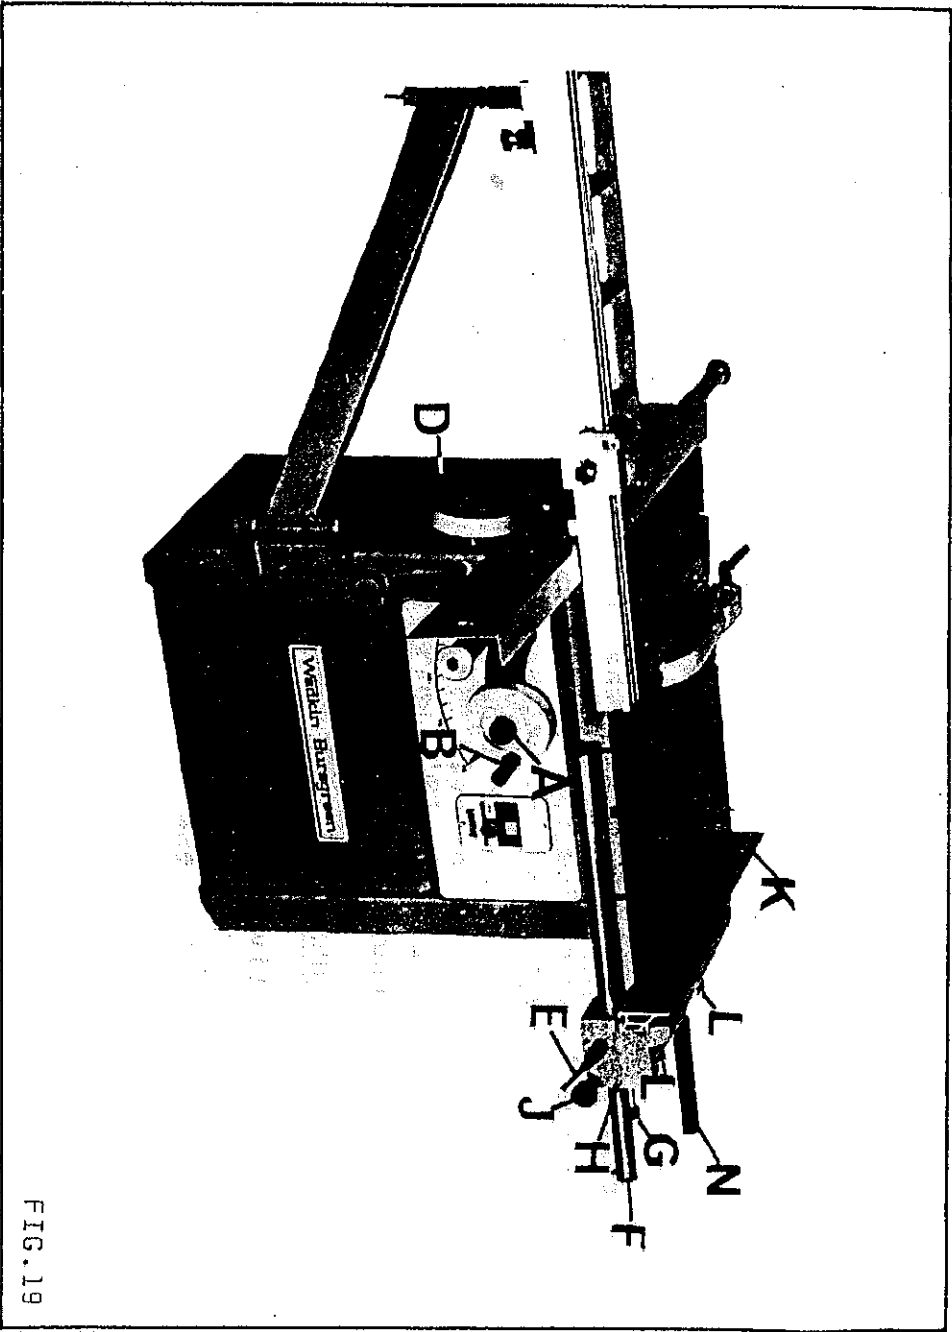

FIG. 19
To re-assemble rip fence, proceed as follows and refer to FIG.19:-
Release locking handle 'A' in FIG.19 and raise or lower the saw arbor by the handwheel 'B' to the required position then relock handle 'A'.
Release locking handle 'C' in FIG.19 and turn handwheel 'D' working in conjunction with the canting scale indicated by the pointer to the required saw position. Relock handle 'C'.
- 1) Loosen locking handle 'E' FIG.19.
The fence plate 'K' in FIG.19 has two positions. Position shown in FIG.18 is for use with deep stock, fence can be moved longitudinally to facilitate this. Position shown in FIG.19 is for use with faced panels, melamine, veneer, etc.
- 1) Loosen handwheels 'L' in FIG.19 then slide fence plate from fence body.
When the fence plate position has been changed as previously described, the pointer 'G' in FIG.19 must be reset accordingly.
- 1) Loosen locking handle 'E' FIG.19, then move fence to a position which would allow a reasonable cut to be taken. Turn locking handle 'E' to lock fence in position.